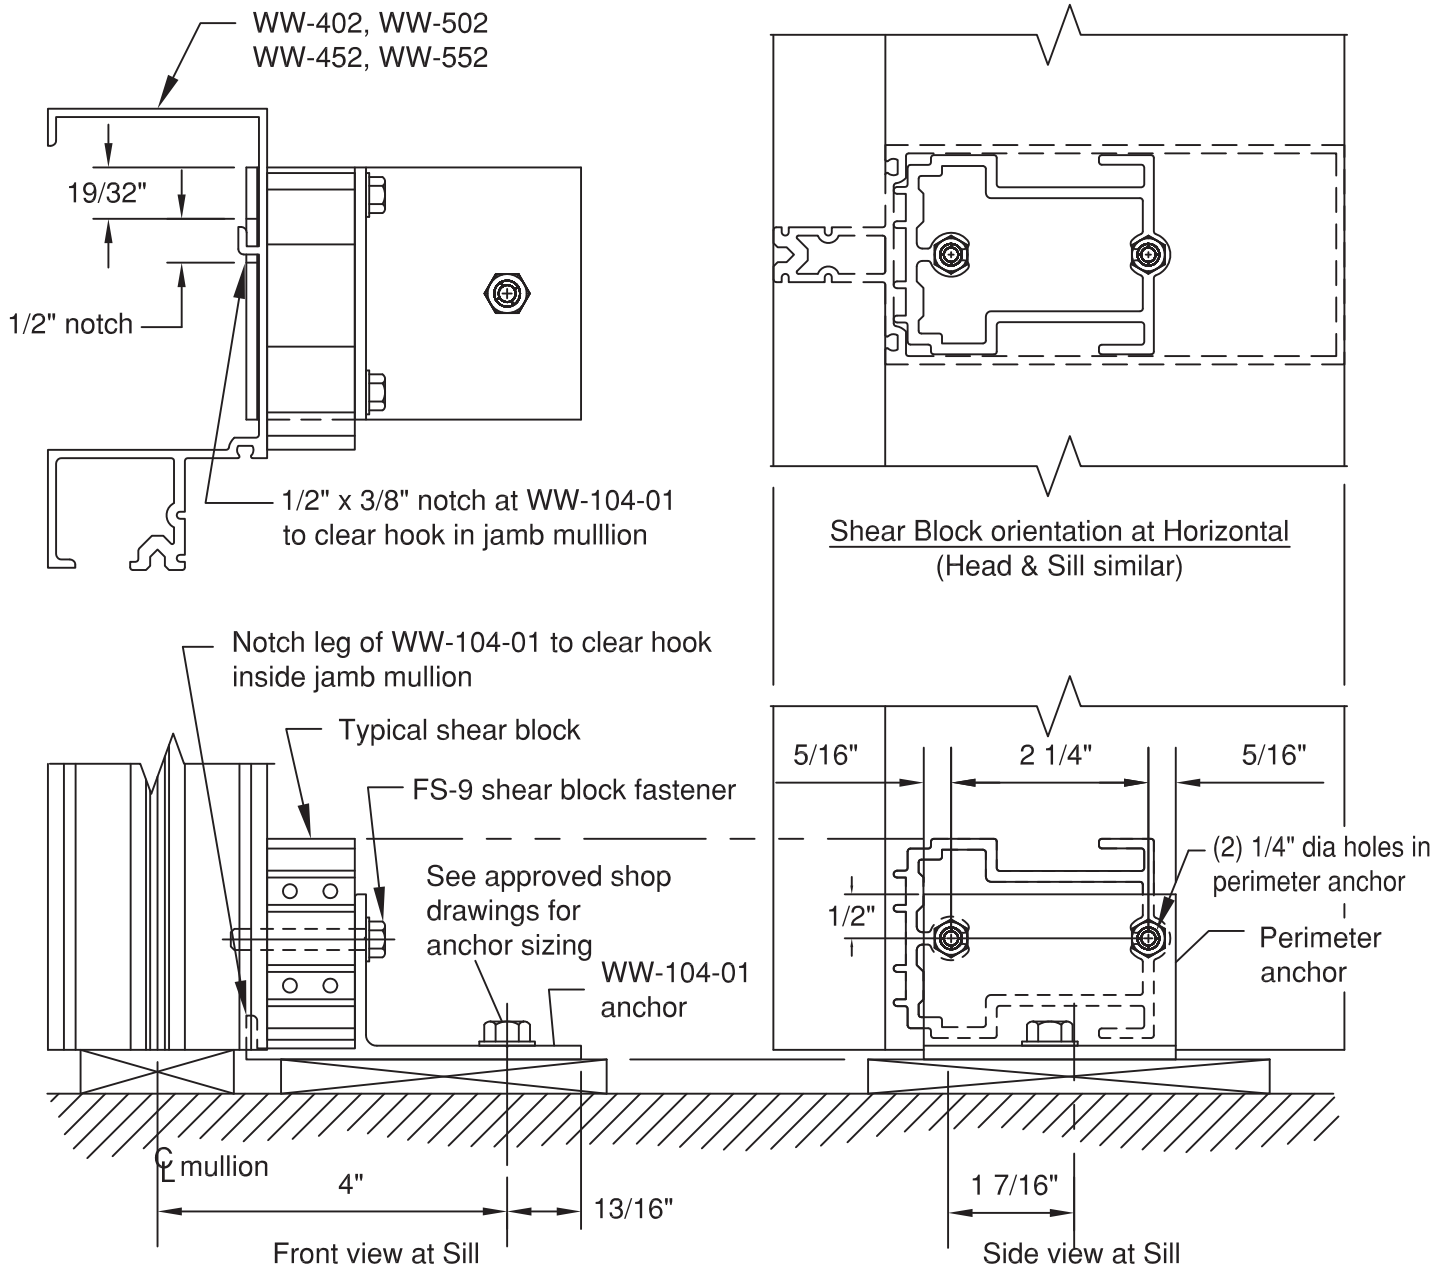

Figure 4
2.1.1 Attach shear blocks to all vertical members. The shear block anchors are designed for use with standard shear blocks. **SEE FIGURE 4** for proper orientation and installation onto mullion. **NOTE: Tee anchors may also be used for single span installations. Refer to TWIN SPAN INSTALLATION below.**
- 2.1.4 Attach shear blocks to all vertical members. **SEE FIGURE 4** for proper orientation on mullion. For installations using the shear block anchors, attach to head and sill shear block. **NOTE: Depending on the end reactions, either the shear block anchor or tee anchors can be used to anchor the wall. For the shear block anchor, the maximum load PER ANCHOR is 375 lbs (750 pounds at intermediate mullions utilizing two anchors).**